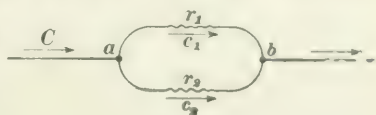

FIG. 51.
69. Fig. 51 represents a derived circuit of two branches.
When the resistances of the two branches are unequal, the current will divide between them in inverse proportion to their respective resistances. In Fig. 51 the resistances of the two branches are r_1 and r_2 . Therefore, $c_1:c_2::r_2:r_1$.
In Fig. 51, the conductivities of the branches are $\frac{1}{r_1}$ and $\frac{1}{r_2}$. Hence, their joint conductivity when connected in parallel is $\frac{1}{r_1} + \frac{1}{r_2} = \frac{r_2 + r_1}{r_1 r_2}$; now, since the resistance of any conductor is the reciprocal of its conductivity, then the *joint resistance* of the two branches in parallel is the reciprocal of their joint conductivity; or, $1 \div \frac{r_2 + r_1}{r_1 r_2} = \frac{r_1 r_2}{r_2 + r_1}$. Hence, joint resistance
EXAMPLE.—In Fig. 51, given $r_1 = 2$ ohms and $r_2 = 3$ ohms; find their joint resistance in parallel.